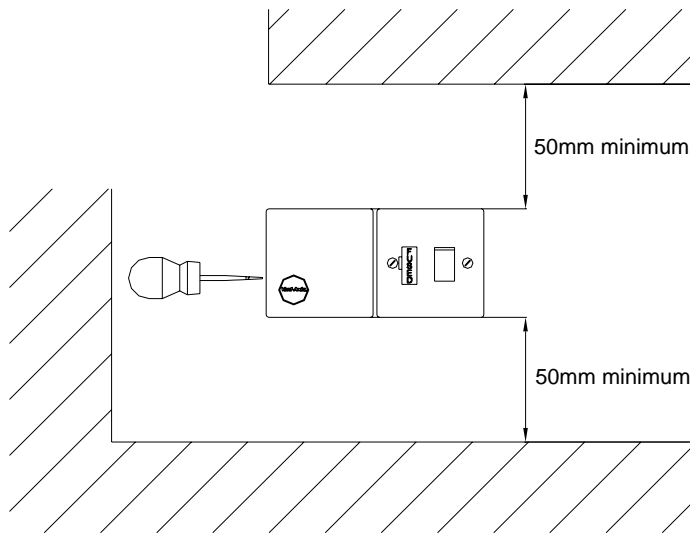

Fig.2
9. Screwdriver access must be provided to the left of the power supply enclosure for the removal of the cover screw (Fig. 2).